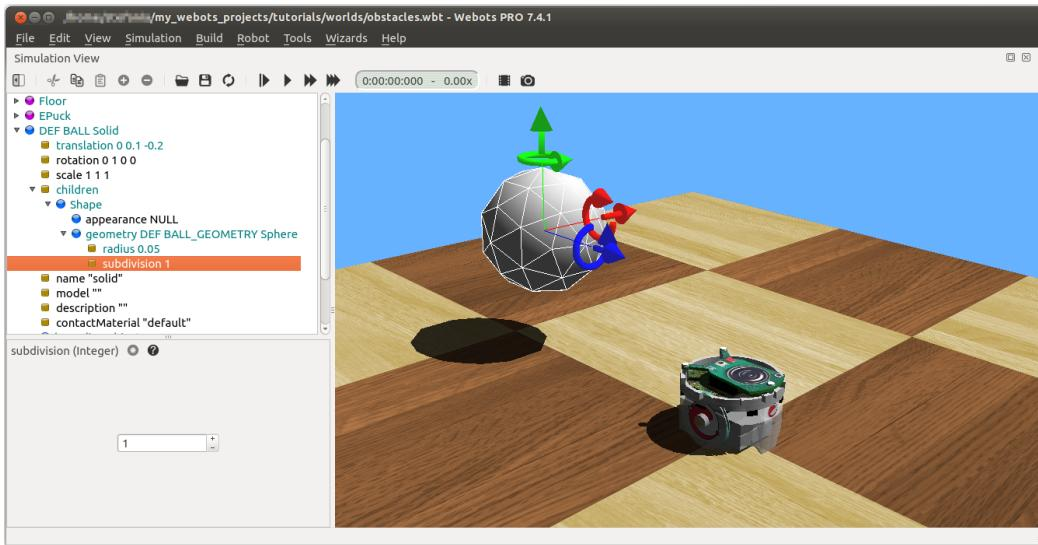

Figure 7.4: Your first rigid body in Webots.
*In the scene tree view, select the last node and add a Solid node using the **Add** button. Similarly select the `children` field of the Solid node, and add a Shape node to it. Add a Sphere node as the `geometry` field of the just created Shape node. Add another Sphere node to the `boundingObject` field of the Solid. Finally add a Physics node to the `physics` field of the Solid. By modifying the `translation` field of the Solid node, place the ball in front of the robot (at {0, 0.1, -0.2} for example). Save the simulation. The result is depicted in figure 7.4.*